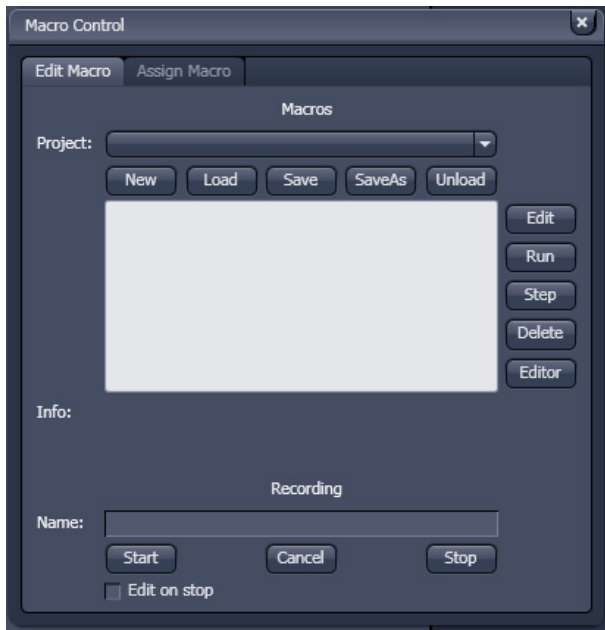

Fig. 3 Macro Control window
Selecting **Macro** opens a dialogue for editing and recording Macros based on VBA programming in the **Macro Control** window (see Fig. 3). VBA programming is described in Section 2 of the printed manual.
- Press the **Edit Macro** tab to switch to the **Macro** and **Recording** panels (see Fig. 3).
(1) Macro panel